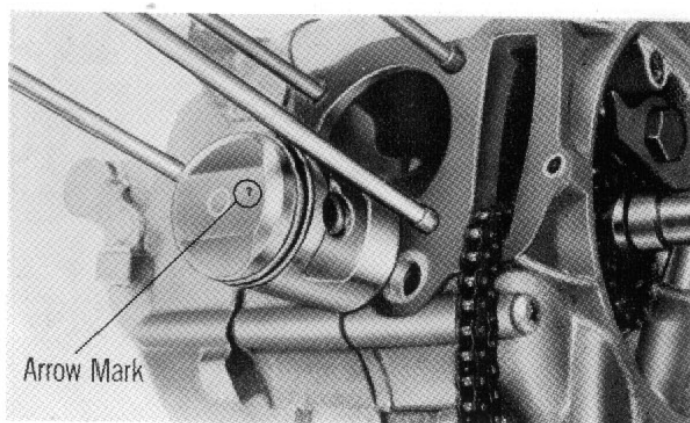

Fig. 35
- When assembling the piston to the connecting rod, make sure that the arrow mark on the piston head is pointing downward. (Fig. 35).